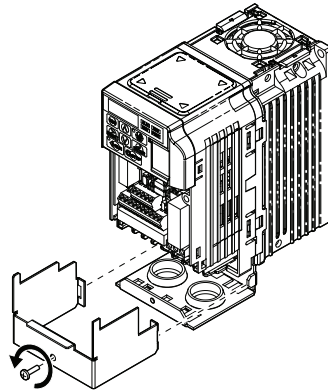
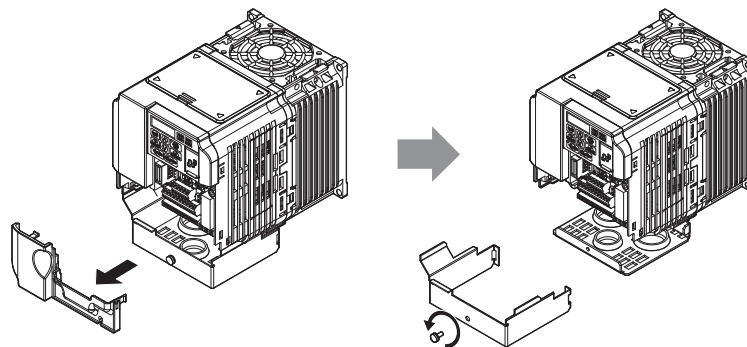

Figure 9 Remove the UL Type 1 Terminal Cover (CIMR-V□□BA0001F to BA0003F, 2A0001F to 2A0006F)
Figure 10 Remove the Terminal Cover on an IP20/UL Type 1 Drive (Models CIMR-V□□BA0006F to BA0018F; 2A0008F to 2A0069F; 4A0001F to 4A0038F)
6. For IP20/UL Type 1 enclosure models CIMR-V□□□A□□□□□F, loosen the screw on the front of the terminal cover and remove it from the drive. Refer to Figure 9 for details. Refer to Figure 10 for drive models CIMR-V□□BA0006F to BA0018F, 2A0010F to 2A0069F, and 4A0001F to 4A0038F, which require removing the plastic terminal cover prior to removing the terminal cover.